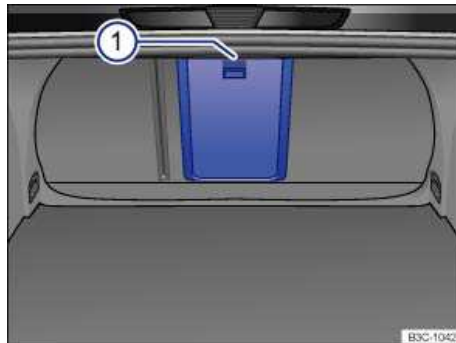

Fig. 103 In luggage compartment: Release lever with marking 1.
- ☐ Fold the pass-through cover back until it engages securely. The red marking on the luggage compartment side ⇒ fig. 103 \(1\) should not be visible.